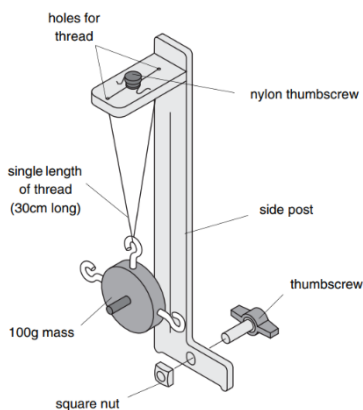

Fig. 3: Side Post Assembly
- (v) Assemble Side Post (See Fig. 3)